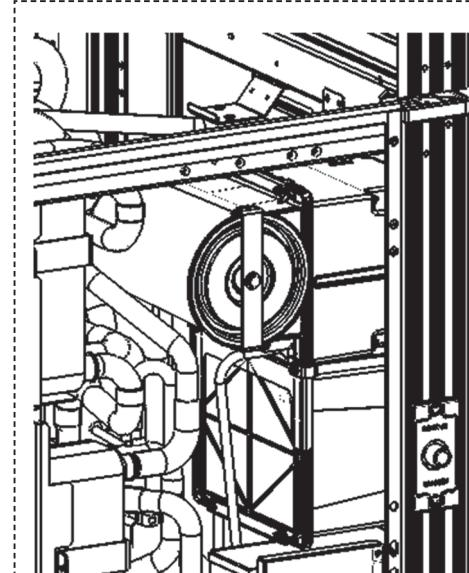

Figure 2
- 1) Remove the screw that secures the air cleaner element, slide the fastener to the left to remove it and the element. (Figure 2.)
Move the fastener on the air cleaner from the left to the right and secure it in the center using a securing screw. (Figure 2.)